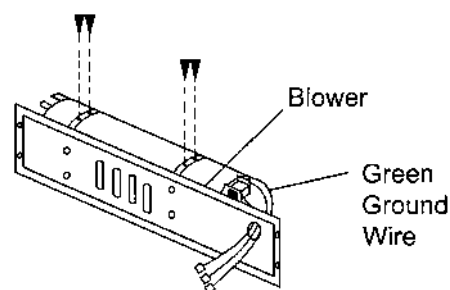

Figure 3 Attaching Brackets To Blower
2. Attach the two brackets to blower housing using four white screws provided in blower kit (2 for each bracket) (see Figure 3). Tighten screws securely. Then guide the green grounding means wire and download of motor through the rubber capped hole.